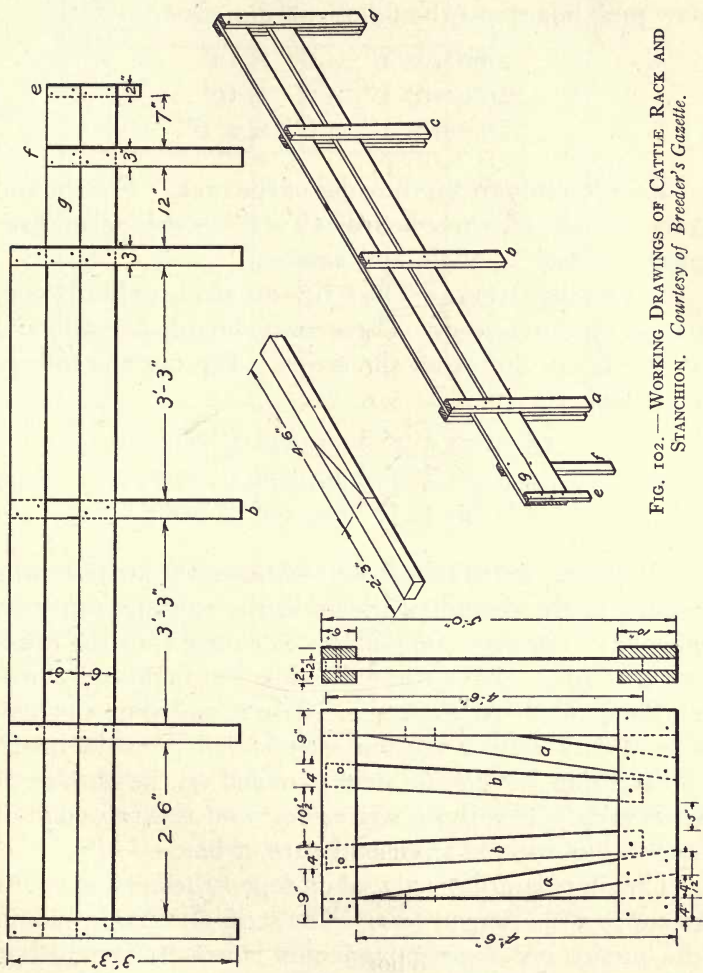

FIG. 102. — WORKING DRAWINGS OF CATTLE RACK AND STANCHION. Courtesy of Breeder's Gazette.
3. **Nailing strips to boards.** — Locate the strips on the boards at the distances shown in the working drawing, Fig. 102. Stagger the nails so as to not split the hardwood strips. Drive the nails clear through and clinch on the inside. At *e* one short strip is nailed on the outside of each side. At *f* one strip is nailed on the inside of each side. At *b* one strip is nailed on the outside of each rack. The short strip *e* rests on the top edge of wagon box to hold front end gate of box.
A stanchion is an arrangement of bars for fastening cattle in a stall by locking timbers around their necks so they cannot get away, and yet giving them considerable freedom of motion. In sawing the braces *a, a*, you can save considerable lumber by laying them out in one piece instead of using two pieces each 4' 6" long. In this way you save the difference between 6' 9" and 9'. The rest of the timbers are laid out as indicated. (See Fig. 102.)